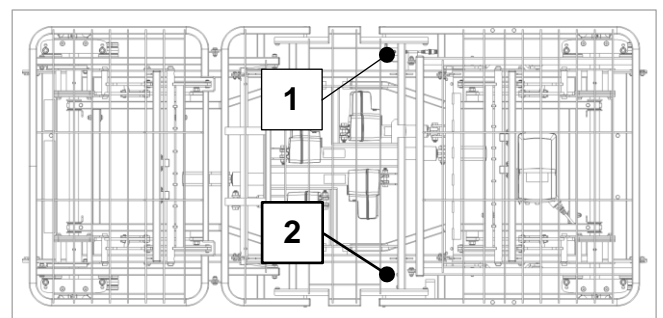

Figure 8.2
3. There are two handset ports located on either side of the bed as shown by 1 (right side) and 2 (left side) on Figure 8.2. The bed will be delivered with the handset cable plugged into the socket in position 2 on the left side.